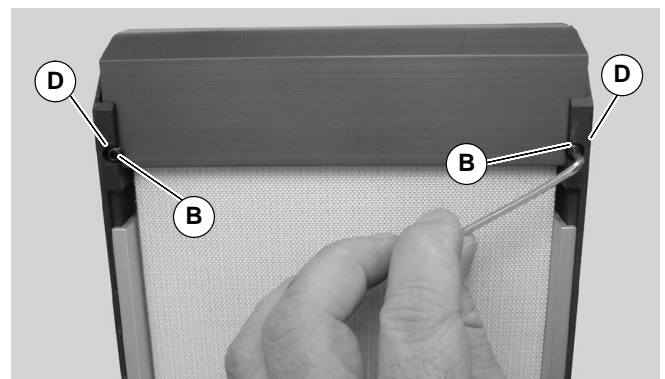

Figure 4
4. Insert two (2) set screws (B of Figure 4) through access notches (D) and into transfer plate (A). Tighten to 28 in-lb (3 Nm).